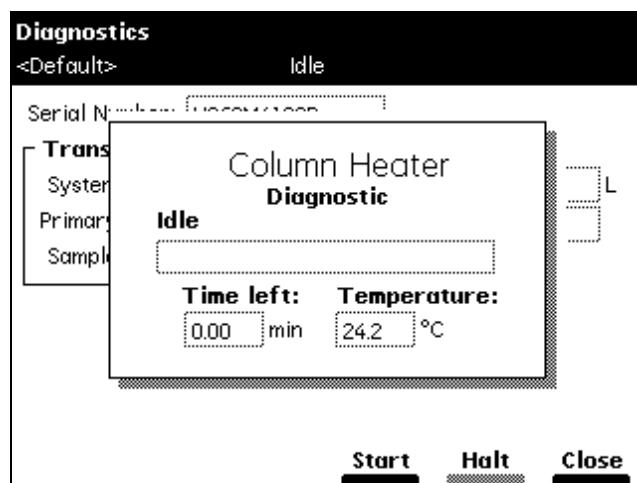

Figure 8-14 Column Heater Diagnostic Screen
1. Select **Column heater** in the Other Diagnostics drop-down list, then press **OK**. The Column Heater Diagnostic screen appears (Figure 8-14).